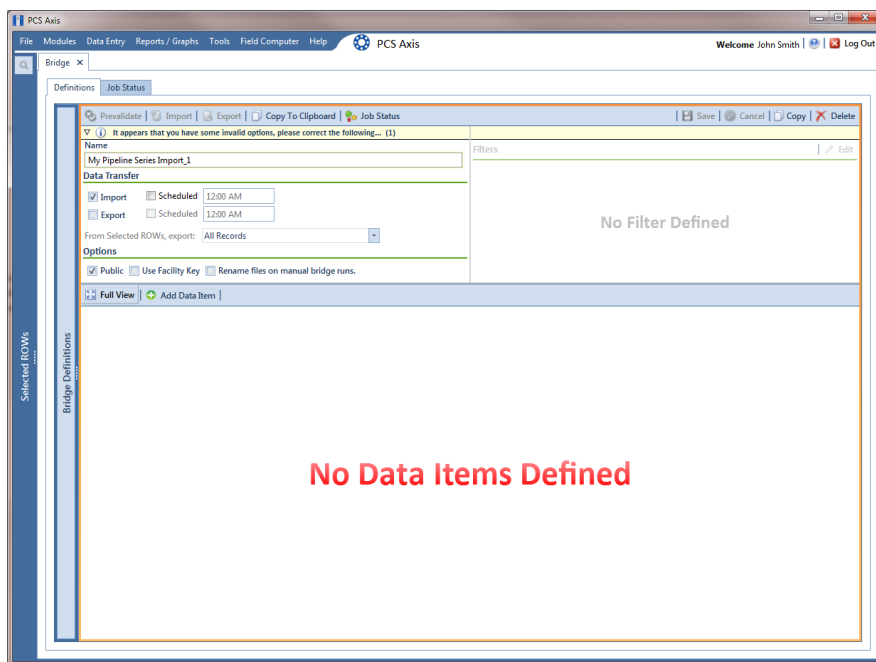

Figure 10-64. Bridge Import Definition
- 5 Set properties in the *Options* group box as follows (Figure 10-64, page 551):